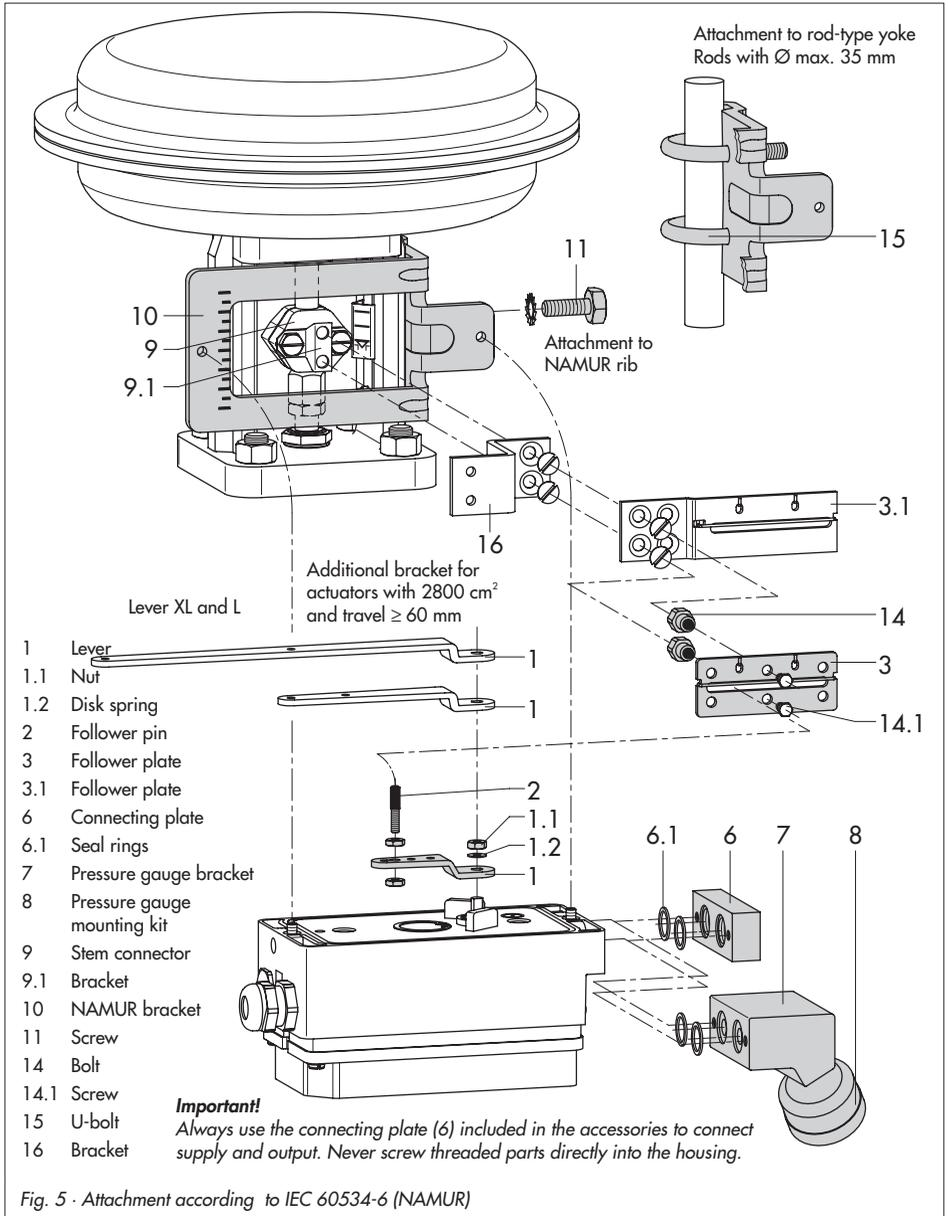

Fig. 5 · Attachment according to IEC 60534-6 (NAMUR)
For the pneumatic connection either a connecting plate (6) or a pressure gauge bracket (7) must be fixed to the housing, depending on the accessory chosen. Make sure the seal rings (6.1) are correctly inserted (see Fig. 5, bottom right).